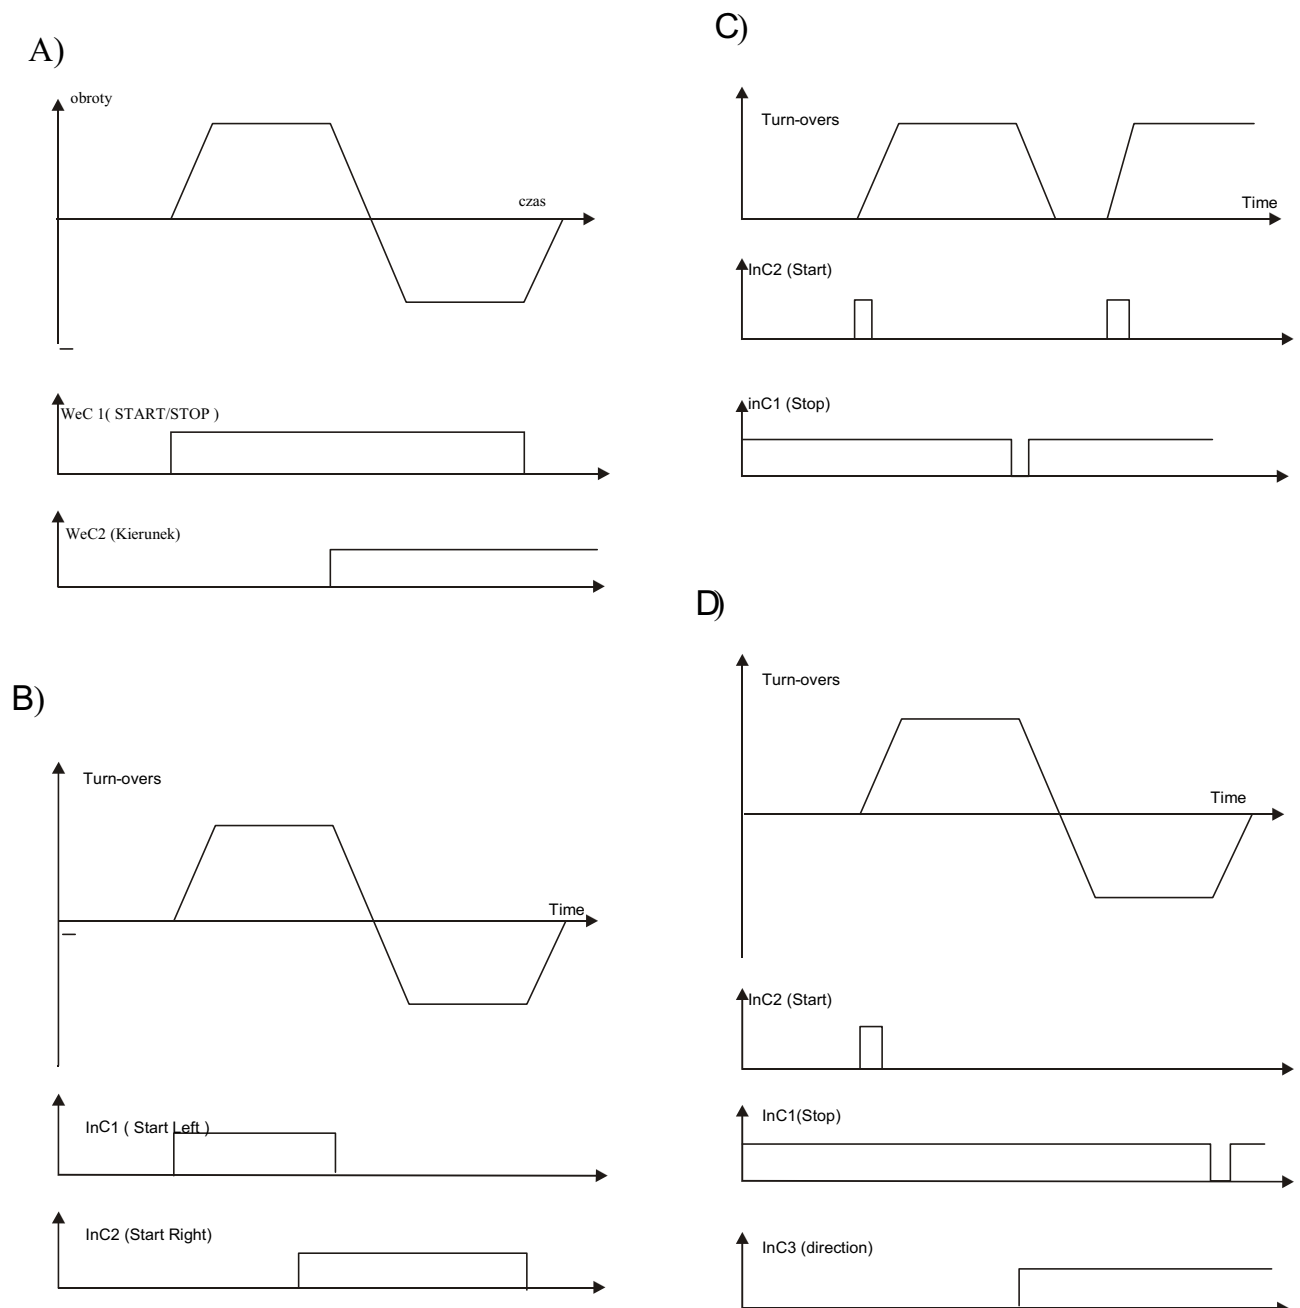

Fig. 7.9 Control from a clamping rod
- ST/STOP LR InC1 (ST/STOP LP WeC1) is for the start / stop, InC2 (START/STOP, WeC2) is for change of a direction (Fig.7.9 a);
- ST _ L ST _ R, InC1-Start ON THE LEFT, InC2-STOP TO THE RIGHT (ST _ L ST-P. WeC1-START W LEWO, WeC2-START W PRAWO) (Fig.7.9 b);
- ST -IM STOP InC1 - pulse start / InC2-STOP (ST-IM STOP WeC1-IS/WeC2-STOP) (Fig. 7.9 B);
- ST-IM L/R InC1, InC2 - as above, InC3 - choice of a direction (ST-IM L/P. WeC1, WeC2 WeC3) (Fig.7.9. d)